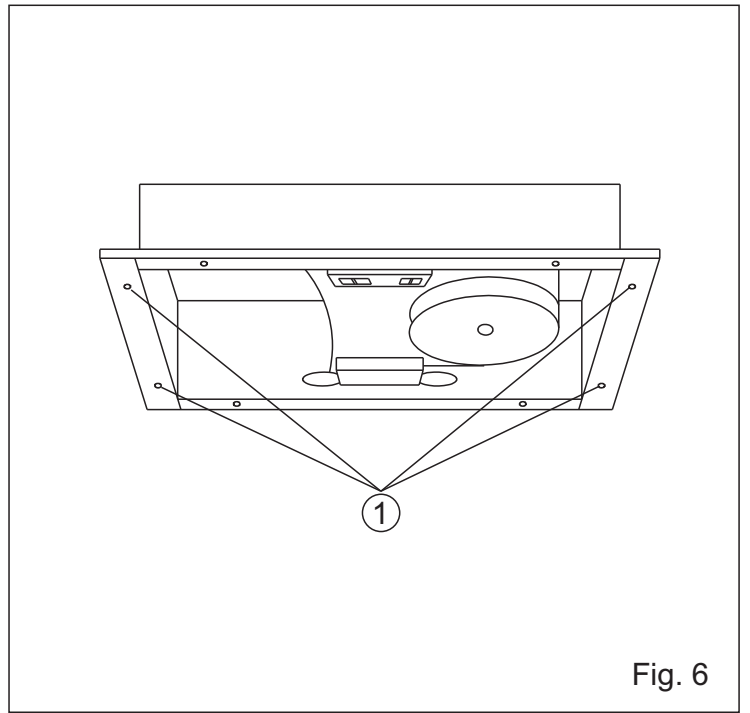

Fig. 6
6. Inserire l'apparecchio nel mobile e fissarlo tramite le 4 viti, fornite a corredo, negli appositi fori (Fig. 6/1).
6. Insert the appliance into the cupboard and fix it in the drillholes by means of the four provided screws (Fig. 6/1).